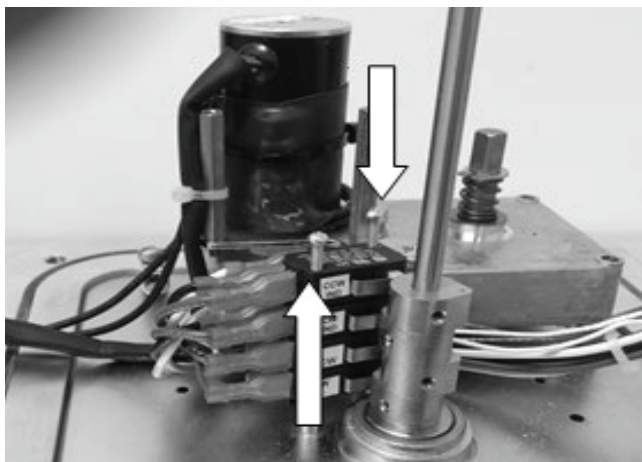

Figure 9.
- 4.11 Loosen the 2 Philips screws that hold the limit switches in place and remove the switches, including the wire harness, see Figure 9.